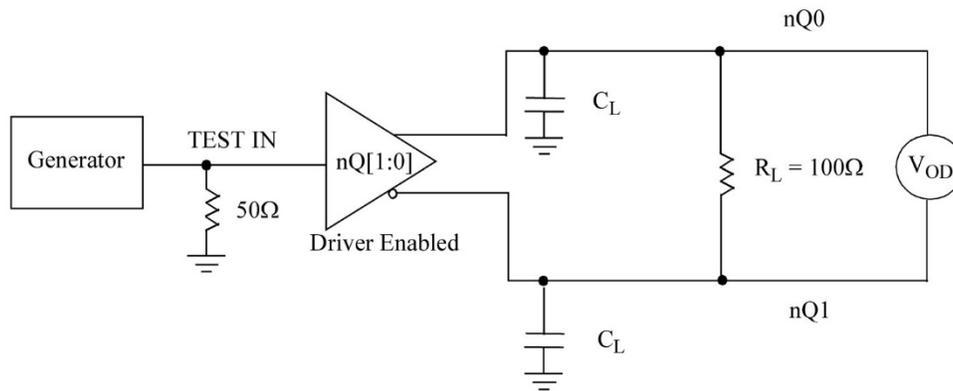

Figure 9. LVDS Driver  $V_{OD}$  and  $V_{OS}$  Test Circuit or Equivalent
1. All outputs are equally loaded. See figure 9.
3. When measuring, use Figure 9.